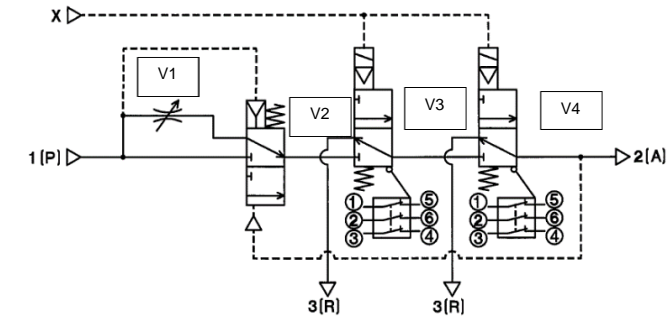
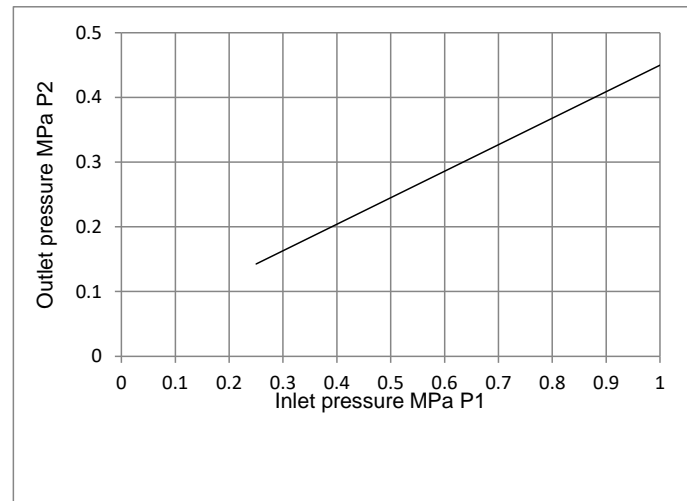

Figure 4. External pilot, Rockwell switch variant
Figure 5. Switching pressure (Close -> Open) of soft start-up valve V2
- In a safety related application, the machine safety system will energise the safety valves (V3 and V4 in Figure 4) when the machine is safe to operate. When both valves are energised air will flow into the protected system via port 2 (A). The flow is initially limited by needle valve V1 and pressure in the protected system will remain low as the system fills or actuators move slowly. The pressure will eventually rise as the system becomes full or the actuators stop moving. As P2 pressure increases (see Figure 5) valve V2 switches and valve V1 is by-passed. In this condition air will flow into the protected system according to the figures given in section 2.3.
- When either of the valves V3 or V4 are de-energised the protected system is vented to atmosphere. When the protected system pressure drops below P2 (see Figure 5) valve V2 returns to its spring state with V1 limiting the flow to V3 and V4.